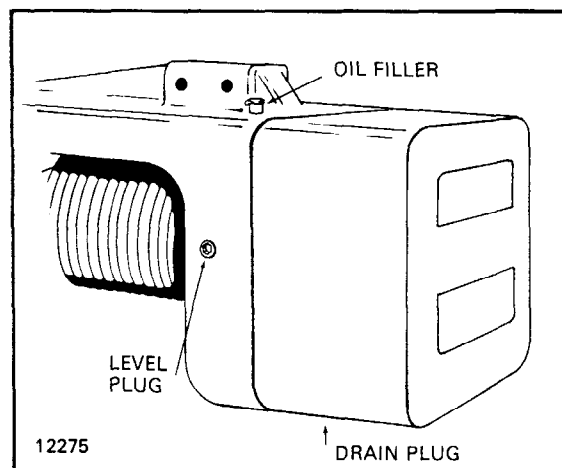

Figure 4-1. View showing location of Oil Filler Oil Level Plug and Oil Drain Plug.
- a. Check Oil Level and Grease Fittings. The gearcase has been filled with oil to proper level and the lower block sheave bearing has been lubricated at the factory. However, this should be checked before operating hoist. Remove and discard felt shipping plug from oil filler at top of hoist. Refer to Figure 4-1. Check oil level by removing oil plug at side of hoist. With hoist in level position, level of oil should be even with bottom of tapped hole. If not, add oil as specified in Section IV. Grease fitting in lower block sheave pin should show evidence of grease.
4-2. CHANGE GEARCASE OIL. (Figure 4-1, Page 7)